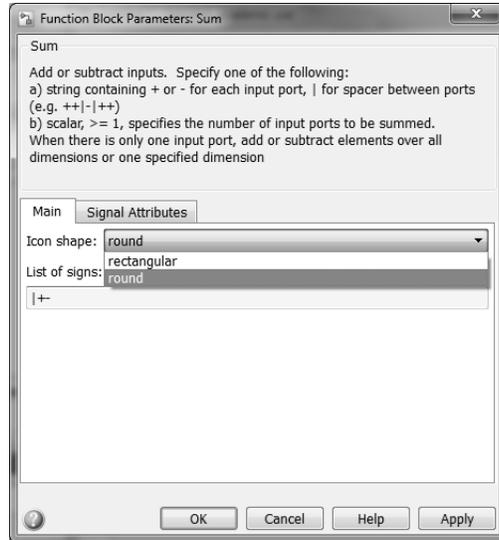

Figure 1.7: Block Parameters for the **Sum** control.
- Double-click the **Sum** control to bring up **Block Parameters** as shown in Figure 1.7 and change from |++ to |+- in order to set addition/subtraction nodes. [Note that the symbol '|' is a blank node. Also, one can change the block to rectangular form. This is sometimes useful in displaying an overall flow direction to the model.]